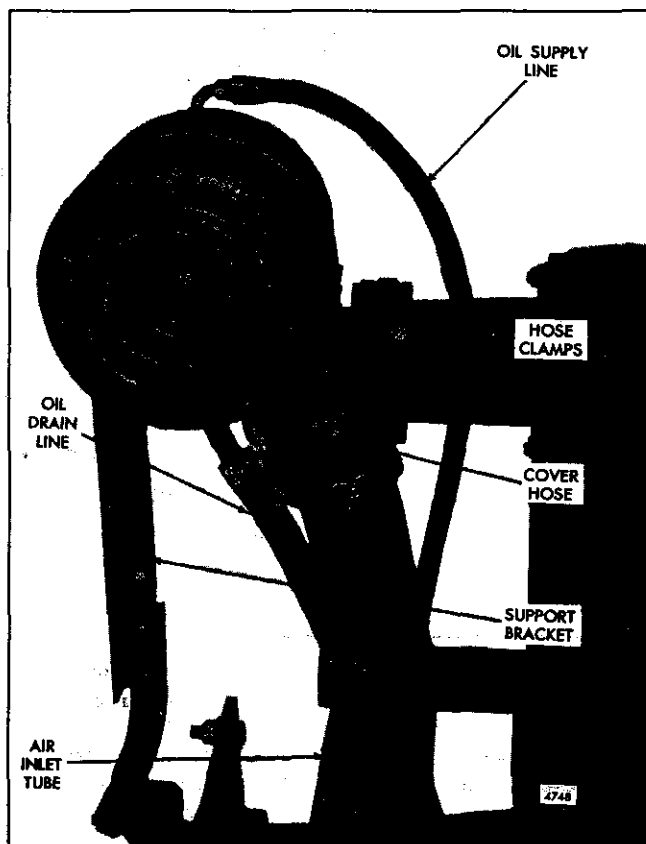

Fig. 6 - Turbocharger Support Bracket, Oil Lines and Air Inlet Tube
1. Refer to Fig. 6 and remove the turbocharger support bracket.